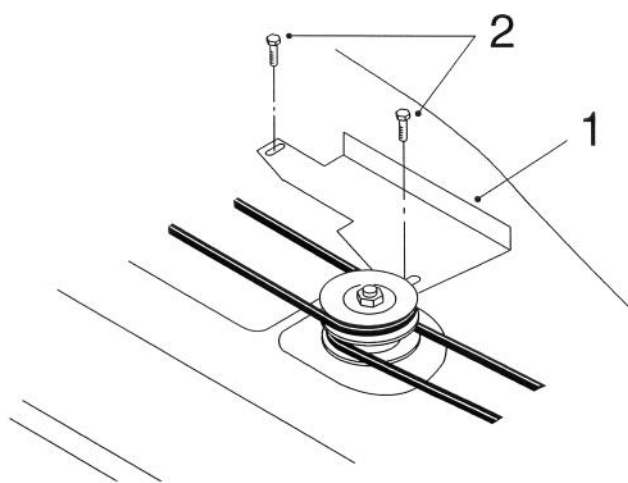

Figure 15
1. Install the mower belt-cover bracket (Fig. 15). Mount the belt-cover bracket using two $\frac{1}{4}$ " x $\frac{1}{2}$ " thread-forming hex-head flange screws in the same holes that the original cover used.